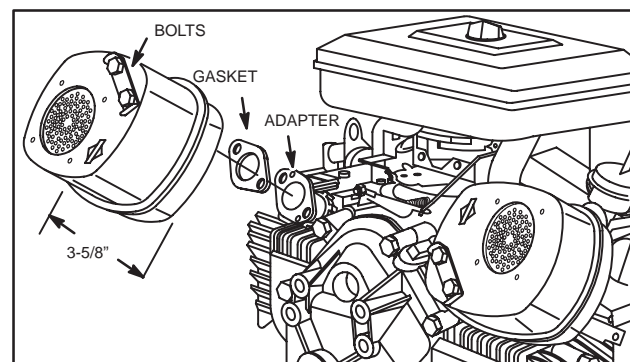

Fig. 22 – Install Large Lo-Tone Mufflers
1. Install muffler with new gasket, two shoulder bolts and lock, Fig. 22.